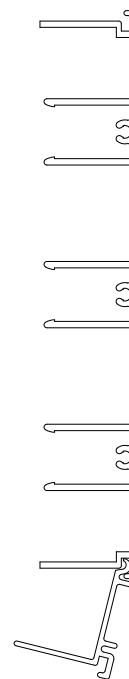

Figure 29
- 7) Insert tail piece and rotate outwards until they are locked into place (See Figure 29)